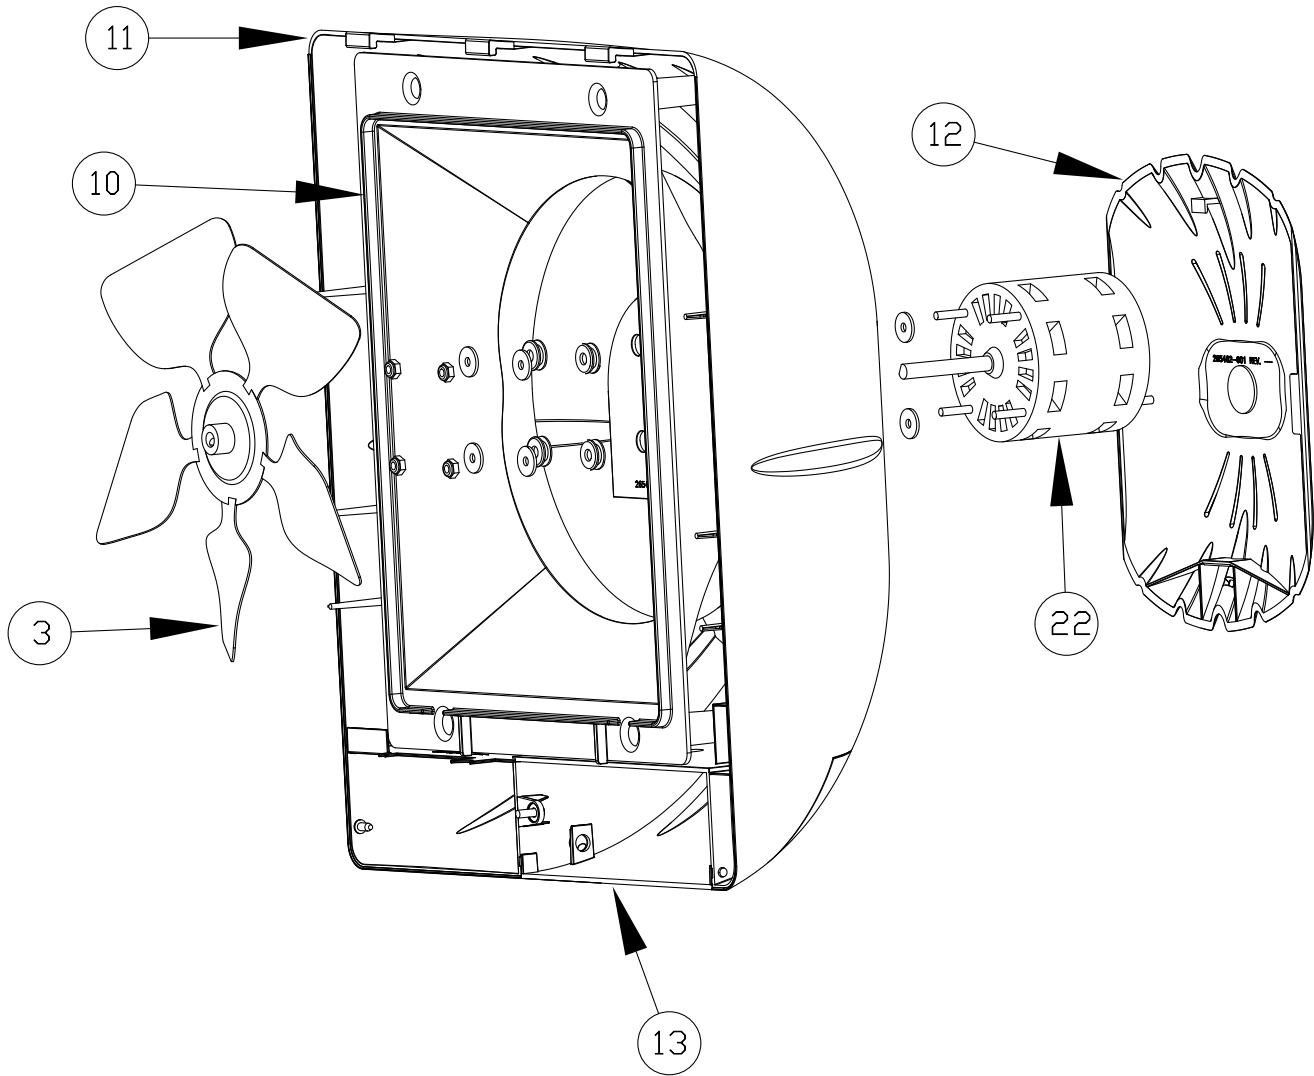

Figure 17
7. Install the new motor to the dome using the nuts, washers, and grommets that you removed from the old motor. Refer to Figure 17 on page 12 to see installation order.